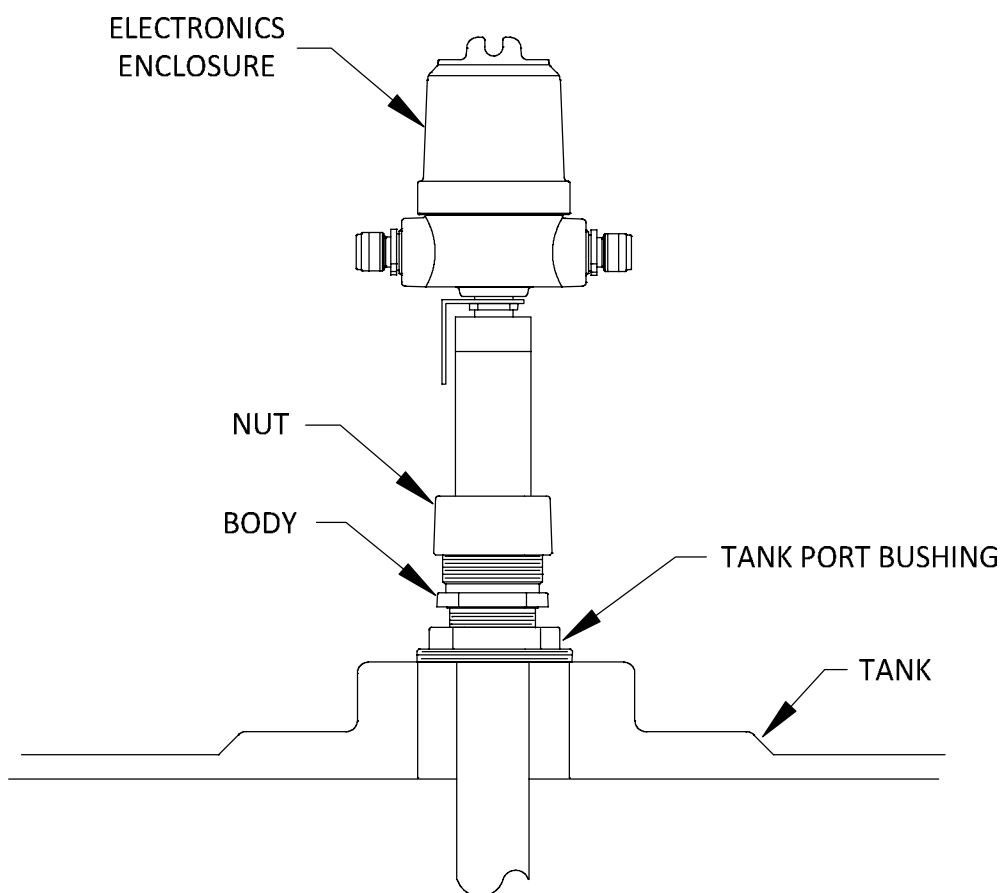

Figure 16: Tank port bushing installation
7. Screw the tank port bushing into the tank opening and tighten (Figure 16). If the 24 inch version of the high level switch was purchased, ensure that the tubing is assembled and that the offset points away from the casing.